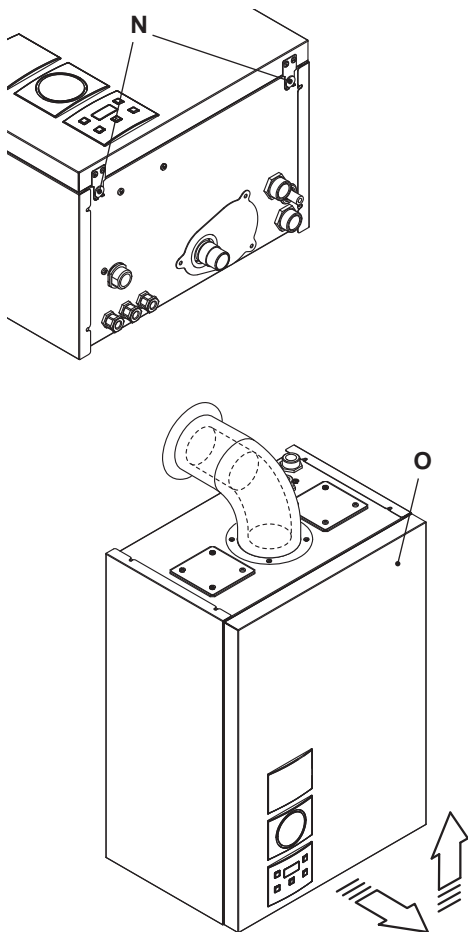

Fig. 6.14
- Unscrew screws " N " and remove the front panel " O " by pulling it and pushing it towards the top so that it is freed from the top housing Fig. 6.14.